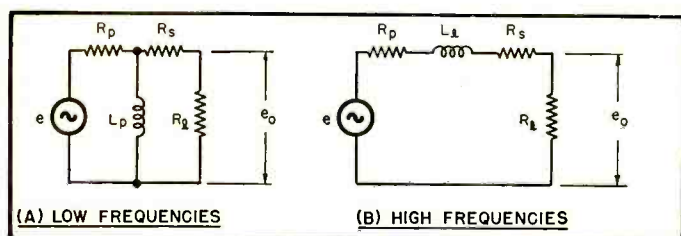

Fig. 1. Simplified equivalent circuits of output transformers at low frequencies (A), and at high frequencies (B).
Figure 1 shows the simplified equivalent circuits of an output transformer at low and at high frequencies. At (A), for example, the value of the primary inductance L_p is chosen by the designer so as to make the output e_o at a frequency f_L 3 db below its mid-frequency value when a load R_l is connected to the output. If the transformer is manipulated by mismatching so as to make R_l smaller, the frequency at which L_p will produce this same loss in output is re-
Just the opposite is true for the high-frequency end. Diagram (B) in Fig. 1 shows that as R_l is decreased, more and more of the voltage is developed across the leakage inductance L_p and less and less across R_l . Consequently, the high-frequency response is made poorer. The lumped primary resistances R_p and sec-